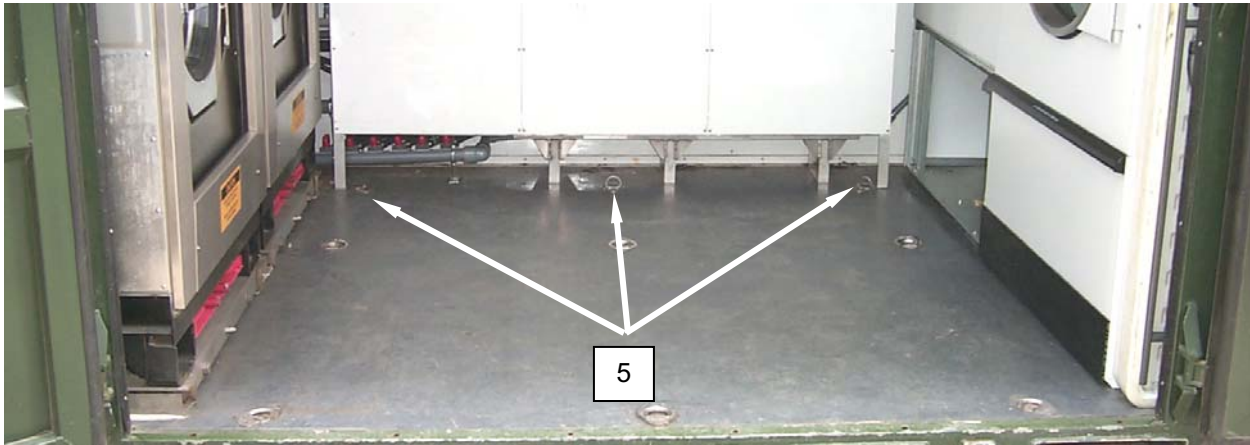

Figure 5. Lift the Three D-Rings.
9. Lift the three D-rings (**Figure 5, Item 5**) closest to the reuse filters.